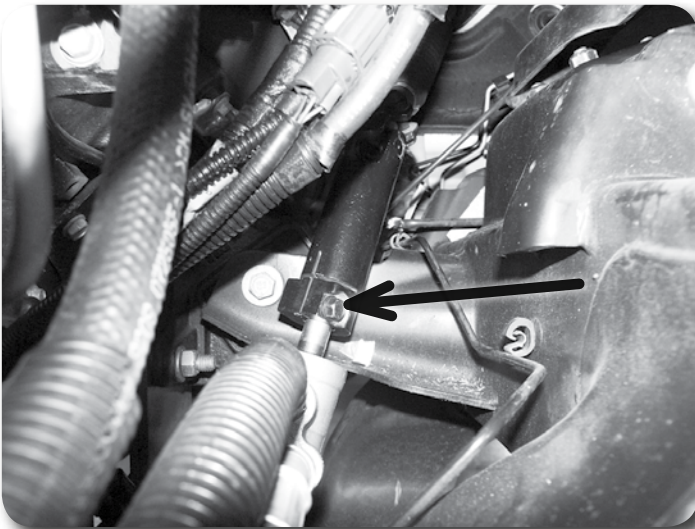

Figure 6
16. Lock the steering wheel to prevent it from turning. Disconnect the steering shaft from the rack and pinion assembly by removing the coupler pinch bolt and pulling it up off of the input shaft **Figure 6**. Save pinch bolt.